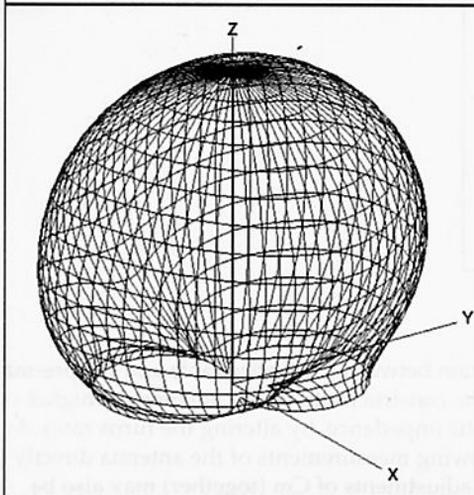
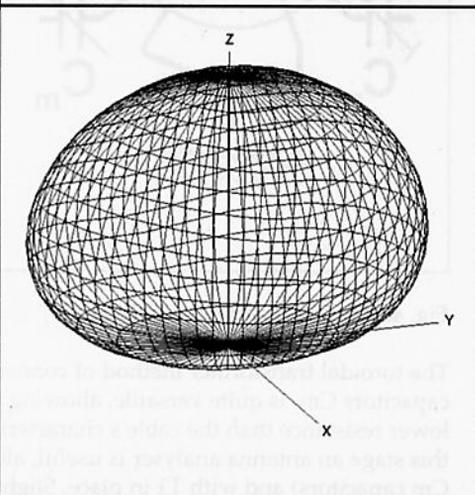
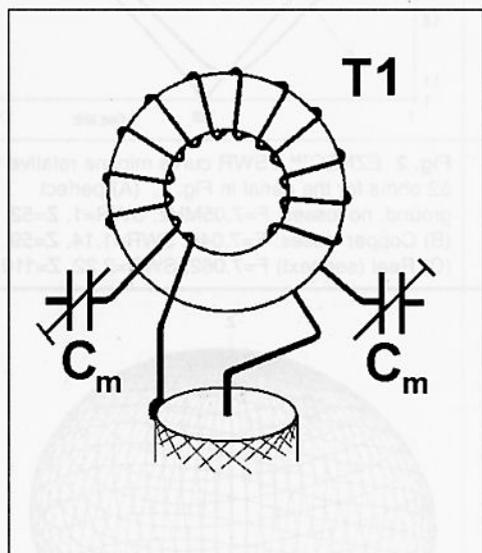
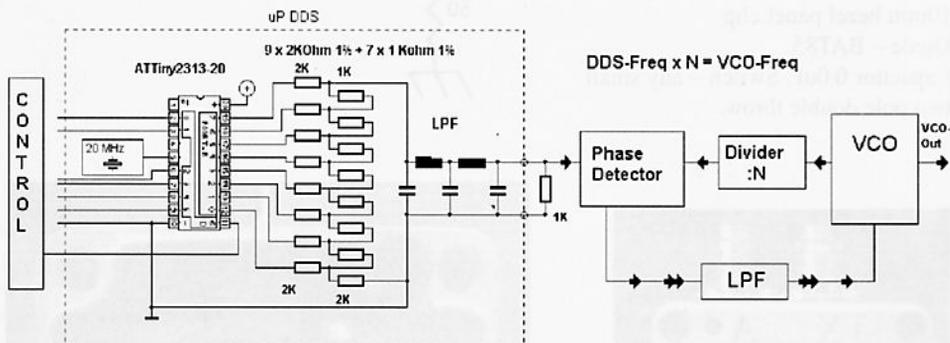

Fig. 3a EZNECTM FF pattern for aerial of Fig. 1 over perfect ground, no losses (Case A in Fig. 2)
Fig. 3b EZNECTM FF pattern for aerial of Fig. 1 over real ground and including copper losses (Case C in Fig. 2).
Fig. 4. (reproduced from SPRAT 121)
Figure 1: PAOKTS – DDS - Numerical Controlled Oscillator using a Microcontroller
In Fig. 1, explicit grounding points are now replaced by a bridging wire RS, with the element dimensions differing only slightly from the original. Fig. 2 shows the EZNEC™ predicted VSWR curves for (A) perfect ground and no losses, (B) perfect ground with copper losses, and (C) copper losses and a really poor ground with conductivity = 0.001 siemens/metre and relative permittivity (dielectric constant) of 2. Bare 2mm diameter wire is assumed. Here, both Cm capacitors (Fig. 4) are 48pF.
Fig. 3a shows the predicted FF pattern for lossless conditions, for which zenith gain is in excess of 8dBi. The FF pattern for inclusion of copper losses and real ground is shown in Fig. 3b. Lossy grounds are expected to degrade the zenith gain for both dipoles and IIDMs to around 6dBi or less. Matching adjustments for aerials over lossy ground are best done at the aerial end. If a toroidal transformer is used (Fig. 4) then the turns ratio can be adjusted accordingly (turns ratio = square root of antenna resistance ratio).
Fig. 1 Revised folded IIDM aerial without the need for explicit ground connections. PQ contains the matching unit M (see SPRAT 121). $C_m=48\text{pF}$ and RS is a non-grounded bridging wire. All dimensions are given in TABLE 1.
Fig. 2 EZNECTM VSWR curve minima relative to 52 ohms for the aerial in Fig. 1. (A) perfect ground, no losses: $F=7.05\text{MHz}$, $\text{SWR}=1$, $Z=52$. (B) Copper losses: $F=7.044$, $\text{SWR}=1.14$, $Z=59$. (C) Real (see text) $F=7.062$, $\text{SWR}=2.22$, $Z=110$.
TABLE 1. Dimensions, including wire lengths, for the folded IIDM aerial of Fig. 1. Wire numbering is: 1 E2(Q), 2 E1(P), 3 PQ, 4 E2(S), 5 E1(R), 6(RS). Figures are for the lossless case (A in Fig. 2). The aerial (all Z-values) may be elevated further by up to 2m with little effect on matching and performance. Element X-elevation can be decreased to compensate for this increase in overall height if required (see text).
The basic micro-processor DDS reference circuit is shown in Fig 1. The Atmel microprocessor calculates a 32 bit frequency sample in 10 clock-cycles of which the most significant 8 bits are loaded into port B. A resistor network converts this digital word into an analog signal. This is reduced to one sample for 20 clock-cycles when the Microprocessor also executes one of the user control functions. After filtering by the LPF the waveform is converted into a clean sinewave, which serves as a reference to lock the VCO via a Phase Locked Loop. With the 20 MHz crystal shown, the smallest possible tuning step of the DDS is $20 \text{ MHz} / 2^{32} = 0.00023 \text{ Hz}$.